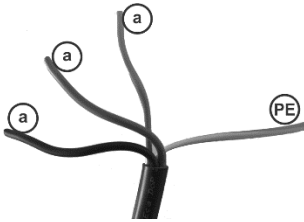

Figure 3.1 Feed line connection
8. Connect the chassis clamp to the chassis connection output in Figure 3.1. Pay attention to the polarity when connecting.